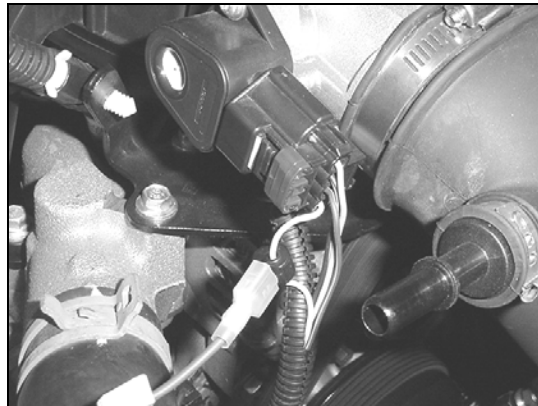

Figure 20
13. Connect the yellow / white striped wire on the WOT/Window Switch to the yellow / white striped on the car TPS sensor. **See Figure 20.**